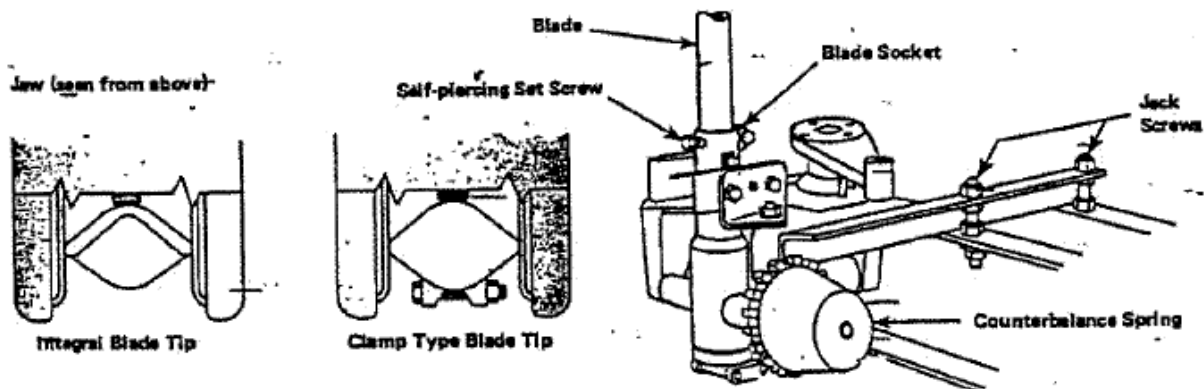

Figure 2: Blade Orientation and jack screw mounting
2. Refer to the operating mechanism drawing and the unit assembly drawing that accompanies each switch. If the grounding switch was not shipped attached to the line switch base, (if applicable) mount it on the jack screws as shown in Figure 1 (of Figure 2, depending upon rating).
Figure 2: The blade must enter the jaw in the center, without dragging on either side. Also the silver strips on the blade tip must be centered lengthwise in the jaw.